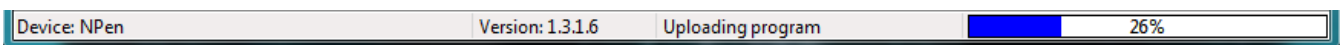

Fig. 21 Upload progress.
- The bottom bar indicates the upload progress (Fig. 21).